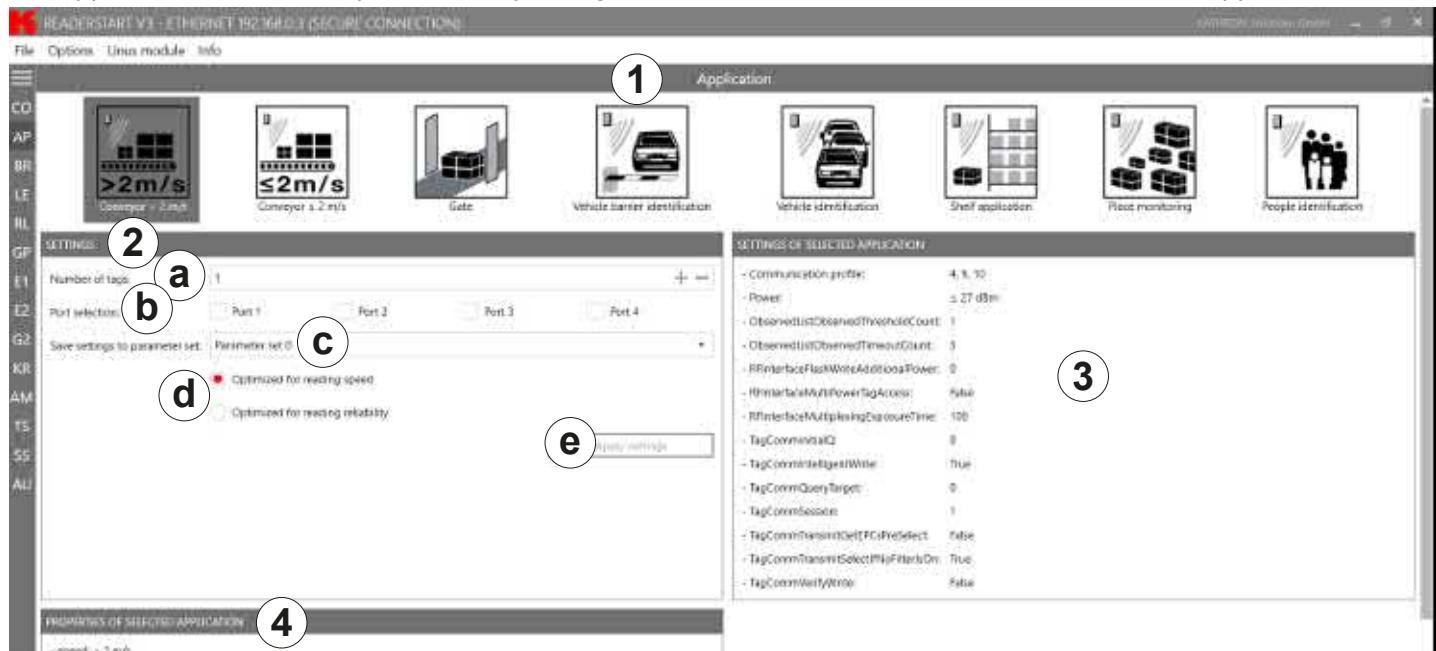

Fig. 40: Application Tab
① Application	<p>selects between the available applications represented visually by means of labelled pictograms</p> <ul style="list-style-type: none"> ▶ Click on a pictogram to select the application. ⇒ The selected pictogram is marked in a darker colour, in Fig. 40 it is Conveyor > 2 m/s.